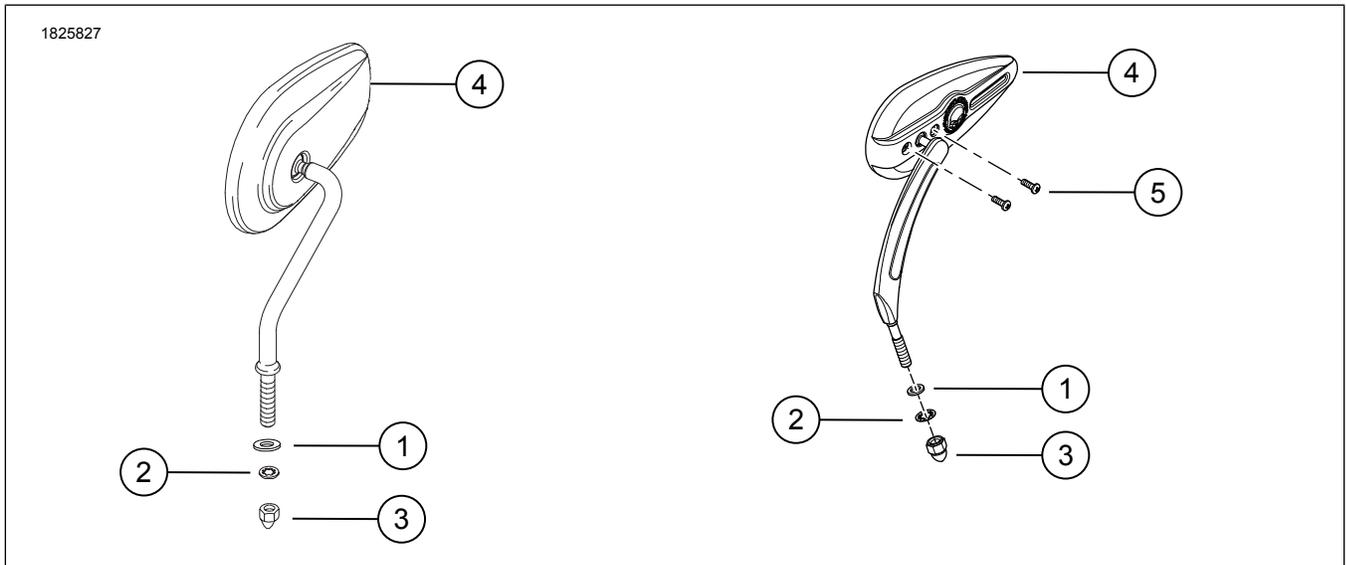

Figure 1. Kit Contents: Mirror Kits
1. Figure 1 Install flat washer (1) on mirror stud (top position) for all mirrors except Part No. 91696-05A, 92398-09 and 92410-09.
2. **Vehicles with turn signals mounted to underside of hand lever housings (except 2004 and later XL models):** Secure left side mirror with lockwasher (2) and acorn nut (3) from kit.
3. Secure right side mirror with lockwasher (2) and acorn nut (3) from kit and turn signal retainer only.
- a. Secure mirrors with flat washers (1) in top and bottom positions, lockwashers (2) and acorn nuts (3) from kit.
- a. Figure 1 Incrementally torque adjustment screws (5) as required. Tighten.